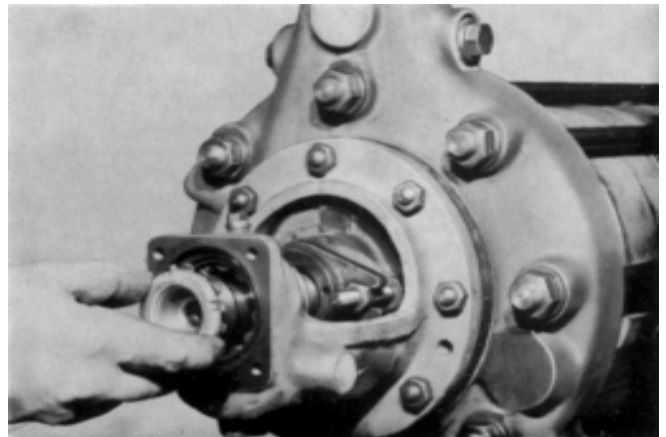

Fig. 58 Mounting the inner race of the cylindrical roller bearing with adaptor sleeve.
- Slip adaptor sleeve (52.1) together with inner race of bearing, lock washer and withdrawal nut onto shaft (210) until the rear end face of the bearing inner race lies in the same plane as the outer end face of the outer race of cylindrical roller bearing (322). Then tighten the withdrawal nut and make sure that the components of the cylindrical roller bearing do not slide out of position in relation to each other whilst the withdrawal nut is being tightened. (see Figs. 58 and 59)